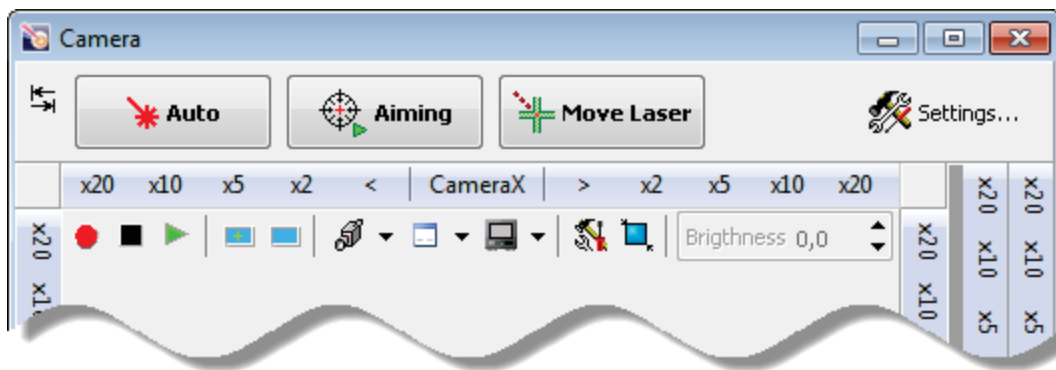

Fig. 6-33. Video image from the videomicroscope
1. Open the **Camera** window (Fig. 6-33) by clicking the